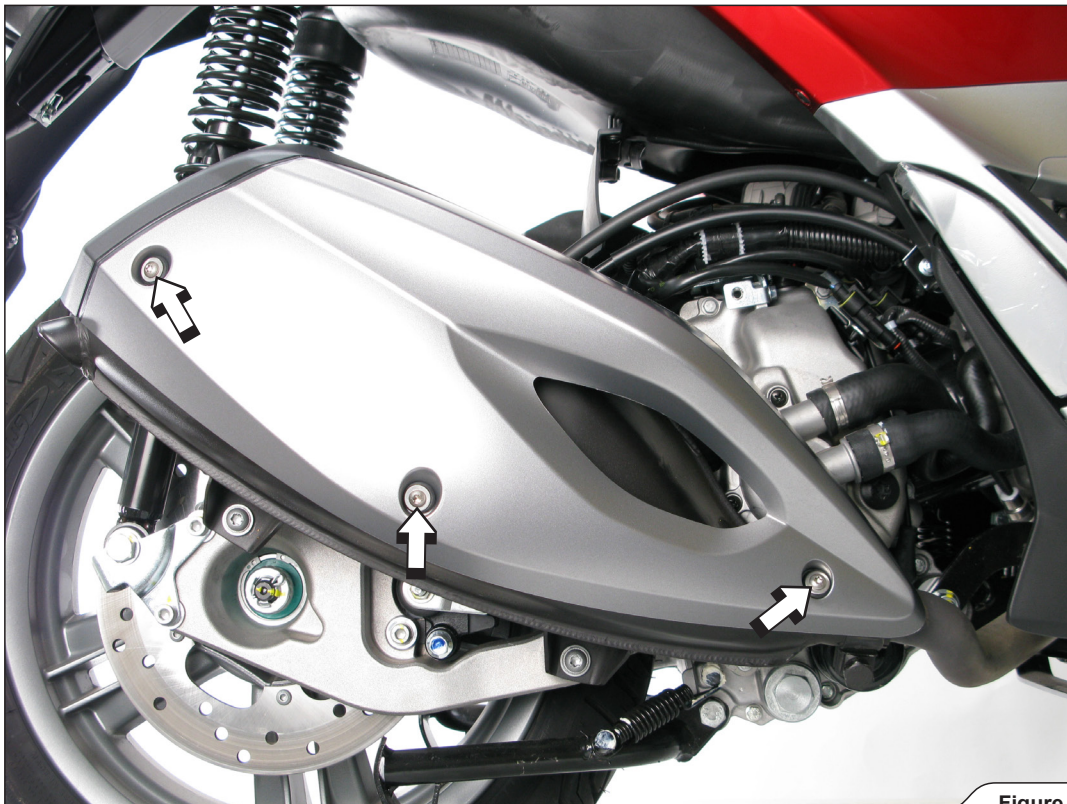

Figure 1
2. Unscrew the marked bolts and remove the muffler heat shield (Figure 1).